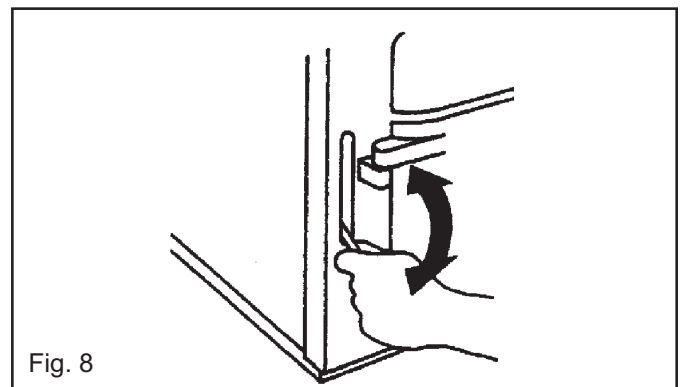
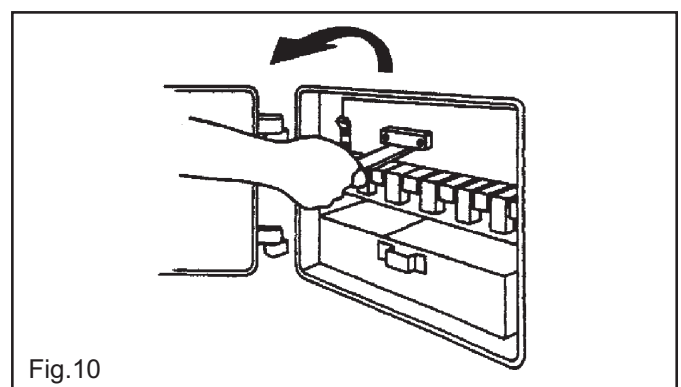

Fig. 8
Fig. 10
- De-ash (Fig. 8) and remove clinker door (Fig. 10). Insert flat bayonet type gas poker on top of grate baffles.
Under normal use it is not necessary to riddle the fire. Wood ash is small enough to fall through on its own. The riddling lever is shown in Fig. 8.